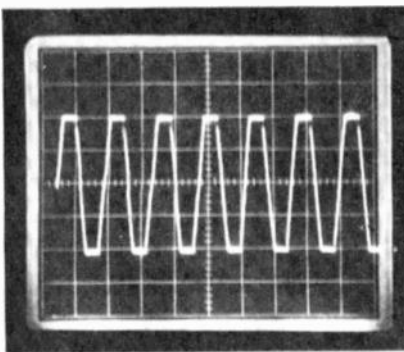
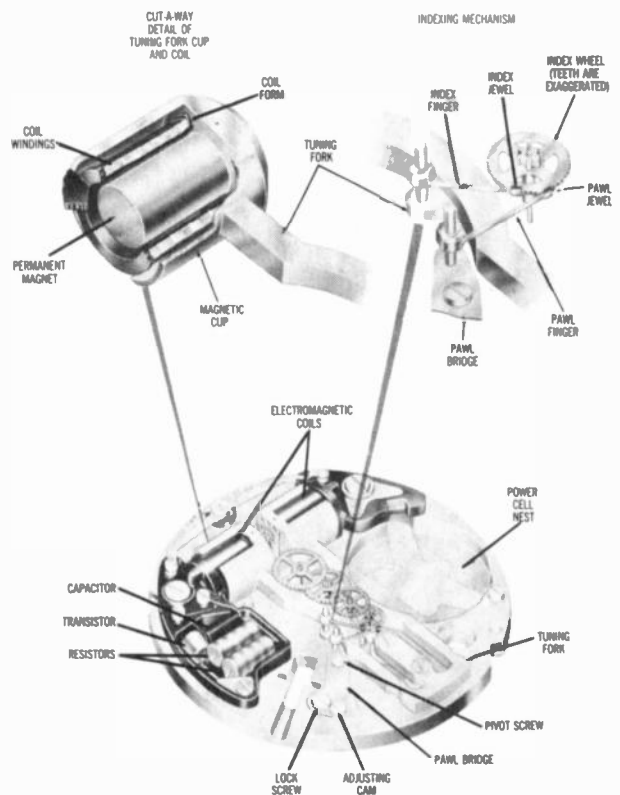

Fig. 2. Amplifier (2) is similar to unit (1) but has a dual power supply. Load and clipping point is the same as Fig. 1.
Fig. 1. The Accutron — major elements.
Fig. 1. Amplifier (1) with regulated power supply, is rated at 60 Watts per channel. Unit is seen here operating into an eight ohm load at clipping point of 60 Watts.
Fig. 3. This shows a specially built 60 Watt/channel amplifier with a single unregulated power supply. Load and clipping point is the same as for the amplifiers shown in Figs. 1 and 2.
Oscilloscope photographs in Figs. 1 through 6 graphically illustrate these effects. Referring to Fig. 1, the 60 watt/channel amplifier with the regulated supply is being driven to the clipping point (point of overload) with a continuous sine wave signal. Both channels are operating. Only one channel is shown in the photo. In Fig. 2, the unit with two power transformers in this power supply is being similarly driven to the clipping point. Figure 3 shows the amplifier with the unregulated power supply similarly driven. Notice that the clipping point is the same for all three units, 63 volts peak to peak. In Figs. 4, 5 and 6, a low frequency tone burst is used to simulate a drum beat. The load is an eight ohm acoustic suspension loudspeaker. The unit with the regulated supply (Fig. 4) clips at its previous voltage level, 63 volts. However, the units with the unregulated supplies (Figs. 5 and 6) are able to deliver a higher voltage prior to clipping. The unit with the single unregulated power supply is clipping at a voltage level approximately 30% higher than its sine-wave continuous clipping level. Thirty percent is almost a one third increase, and since power is proportional to the square of the voltage, the power increase is approximately $1.3 \times 1.3 = 1.69$. Almost seven-tenths more effective power is available from this amplifier.
The first generally successful electronic watch, the Bulova Accutron, made its appearance in 1960. It was the first watch not to use a balance wheel and hairspring. Instead, the Accutron uses a tuning fork as the time keeping reference. The operation may be seen by reference to Figs. 1 and 2. The tuning fork forms the feedback path of a transistorized oscillator operating at a frequency of 360Hz and the vibratory motion of the fork is converted into rotary motion by a ratchet wheel and pawl indexing mechanism. This